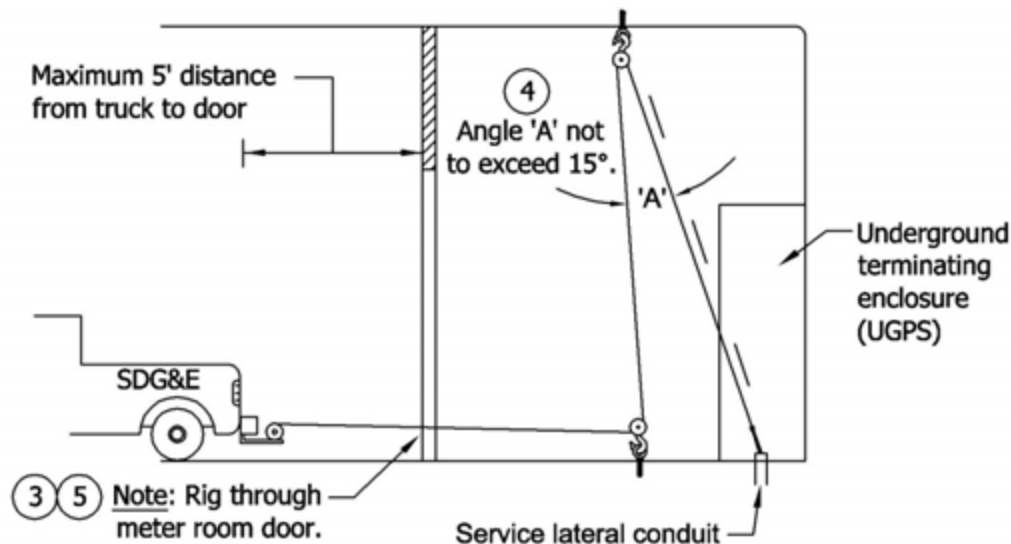

FIGURE 1
- ① Customer to provide pulling eye hook structurally in the ceiling with a load capacity of 8,000 lbs. Locate eye hook in front of, and centered to, the UGPS. Customer to submit the structural engineer's approved drawing(s) to SDG&E's (Utility) Planner prior to installation of the eye hook and coil insert (reference Note 2). Coordinate the installation with the Utility's Inspector.
- ② Customer to provide a 1" x 4-1/2" Dayton/Richmond flared thin slab coil insert (F-63), or equivalent, with a safe working load tension of 4,750 lbs. and a Dayton/Richmond T-12 swivel lifting plate with a 1" bolt diameter, or equivalent, with a safe working load of 8,000 lbs. when used in combination with the coil insert specified above. Install the coil insert and swivel lifting plate directly below the pulling eye hook specified in Note 1. Coordinate the installation with the Utility's Inspector. To ensure safety, installation of the coil insert and swivel lifting plate shall be in compliance with the manufacturer's installation instructions.
- ③ The rigging path through the meter room door is to be directly in line from truck access to the floor-mounted coil insert and swivel lifting plate through the meter room door.
- ④ The pulling eye hook specified in Note 1, and the floor-mounted coil insert and swivel lifting plate specified in Note 2 are to be positioned at a distance out from the UGPS such that angle A (see Figure 1) is not greater than 15 degrees. The rigging path through the front of the UGPS is to be unobstructed, and the rigging is to have no contact with the top, bottom, or sides of the pull section opening. Maximum allowable height of top pulling eye is 14'.
- ⑤ Customer to provide the Utility 24-hour direct access to within 5' of the meter room door(s).